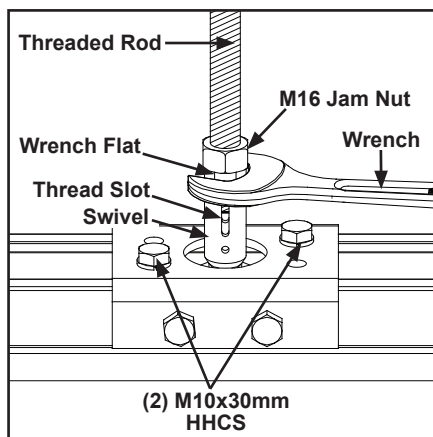

Figure 3-67
- Step 2. Verify threads are visible in thread slots when finished leveling system. See Figure 3-67.
- Step 4. Tighten two (2) M10 x 30 mm HHCS to lock mounting bracket to rail. Tighten bolts until lock washer is flat. Do not over tighten. See Figure 3-67.
- Step 5. Tighten M16 hex jam nuts to each rod connector to lock rod into connector. See Figure 3-67.